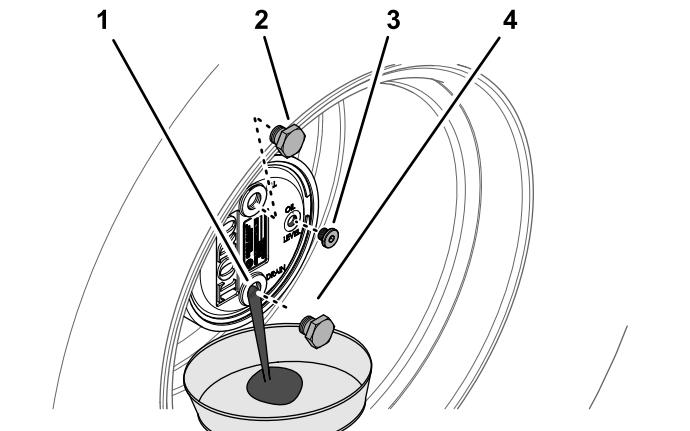

Figure 128
2. Remove the fill plug at the 12 o'clock position and the check plug at the 3 o'clock position (Figure 128).
3. Place a drain pan under the planetary hub, remove the drain plug at the 6 o'clock position, and allow the oil to fully drain (Figure 128).
5. Install the drain plug into the drain hole of the planetary housing (Figure 128).